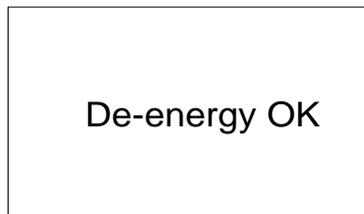

Figure 5-3 De-energy OK interface
(3) When “De-energy” is successfully completed (Figure 5-3), press ESC to return to the main menu. Check the PV voltage on the LCD according to “6.3.3 Operation information” or check the voltage of DC bus capacitor with a voltmeter. Don’t turn off the AC circuit breaker or perform maintenance to the inverter until the DC bus capacitor is discharged to safe voltage, as shown in Figure 5-3.